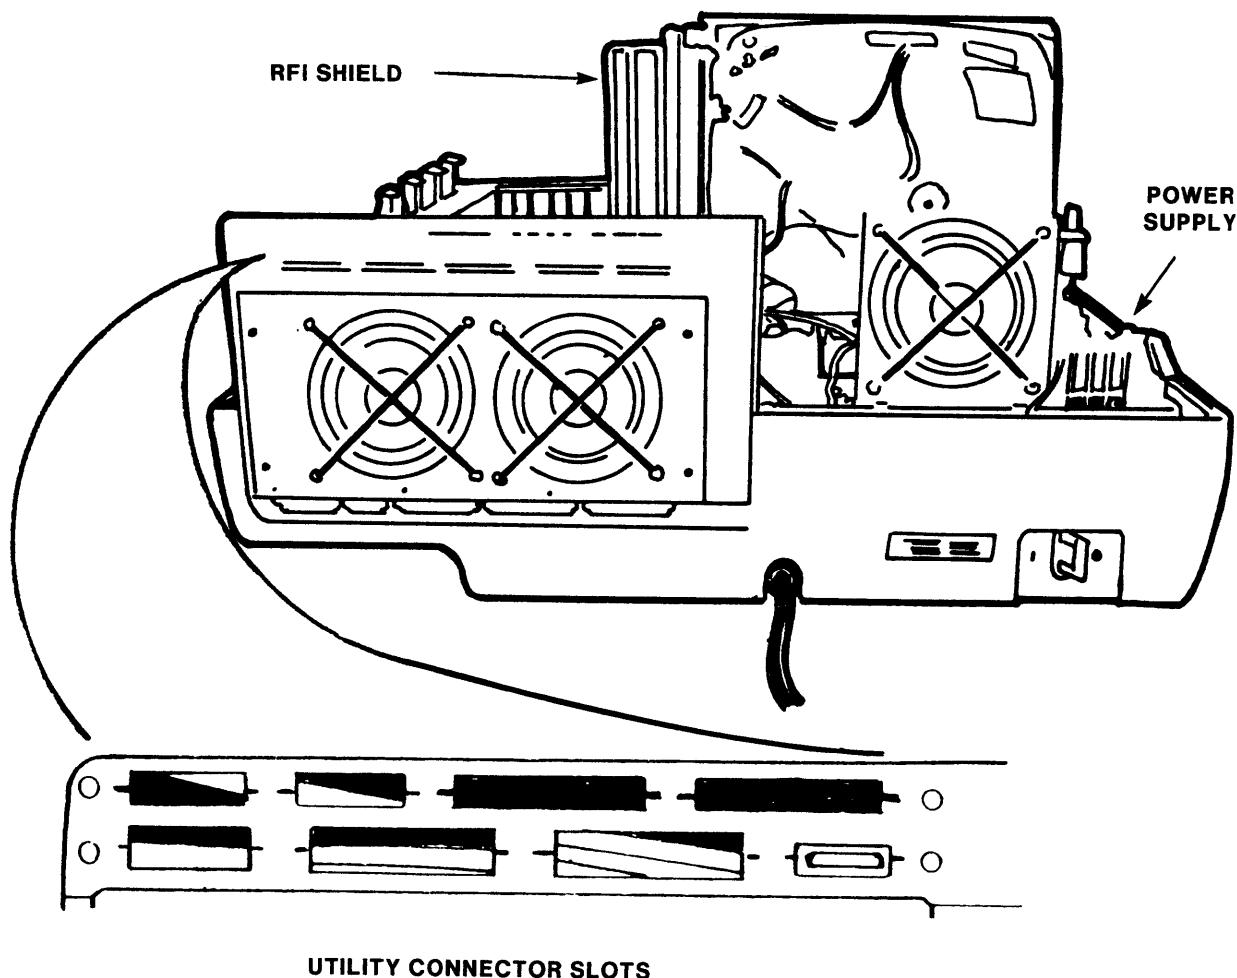
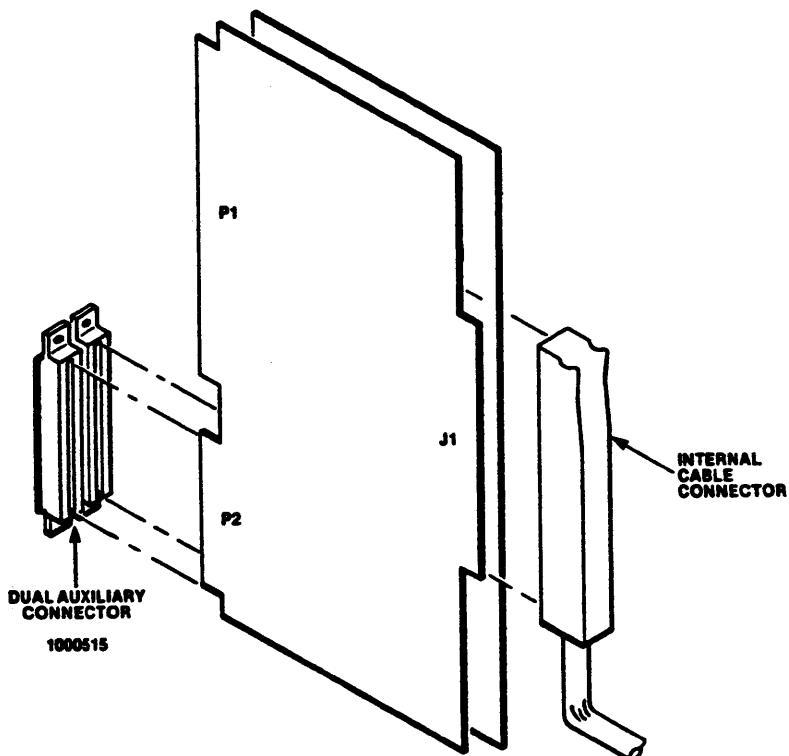

Figure 4-4. Series IV, Mainframe with Cover Removed
Figure 4-5. Series IV, Auxiliary Connector Installed on a Two-Board Set
An internal cable assembly must be installed for boards that interface through their top-edge connector with an external device. The cable assembly and its mounting hardware are usually shipped with the board or board set that requires the external connection. Connectors at one end of the cable assemblies are mounted in the utility connector slots on the back panel (see Figure 4-4). Install any ground wires from the cable assemblies to the threaded inserts, provided on the back panel, with appropriate
4. Installing an auxiliary connector (refer to Paragraph 4.5) and an internal cable assembly (refer to Paragraph 4.7), as required. Install the auxiliary connector on the board set (see Figure 4-5).
5. Installing the board, or board set, in the card cage, making sure that the board edges line up in the card cage guide slots (see Figure 4-4). When boards are lined up and resting on the backplane bus connectors, press down firmly on the lifters at the top corners of the boards until the P1 edge connectors (see Figure 4-5) are seated in the bus connectors.
The CPIO, IEU and the optional iMDX 434 SPU boards are installed in card cage slots 1, 2 and 3 respectively. Slots 1 thru 3 are accessible only when the top cover is removed from the mainframe and the Radio Frequency Interference (RFI) shield is removed from the card cage (see Figure 4-4). Slots 1 thru 3 accept 12 X 12 inch
7. Install the board in the correct card cage slot (see Figure 4-1), making sure that the board edges line up in the appropriate card cage guide slots (see Figure 4-4). When the board is lined up and resting on the backplane bus connector, press down firmly on the lifters at the top corners of the board until the bottom edge connectors are seated in the backplane connectors.